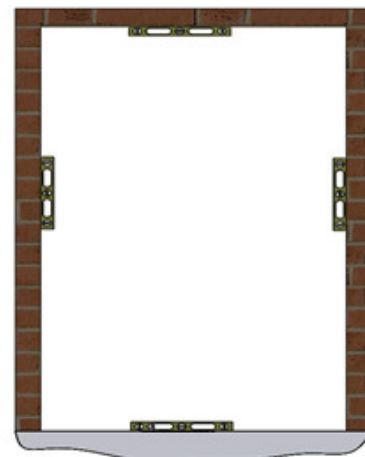

Figure 4:
- Verify the opening is plumb, square, and level (Figure 4).
- Place the Arche-Duct drain system into the opening and determine any leveling that must be done prior to installation (Figure 4). Prepare relief areas for the PVC drain flange(s).